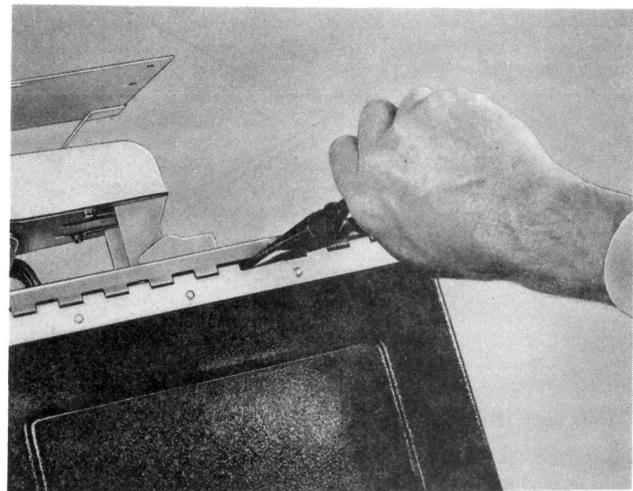

Fig. 29—▶Removing Hinge Pin From KS-21435, List 10 Directory Cover◀
4.02 Directory covers for the KS-21435, List 10 can be replaced in the field. Remove the hinge pin as shown in (Fig. 29) and replace the cover.